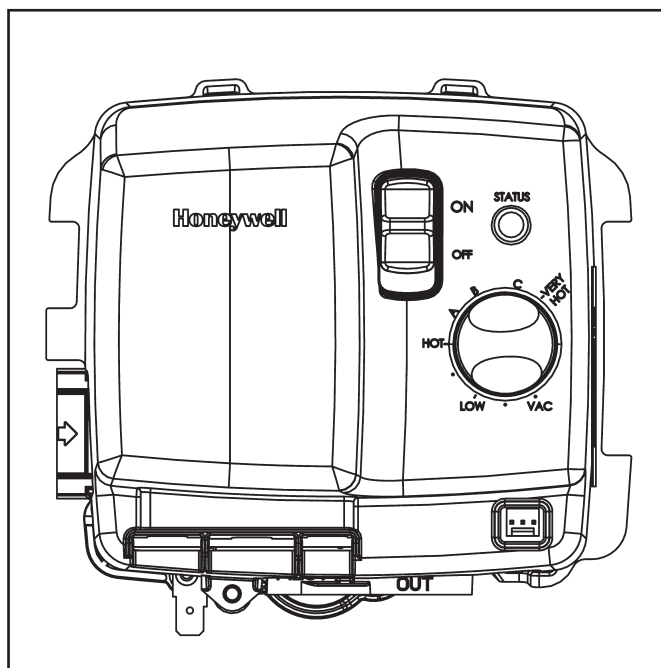

Figure 3. Temperature Adjusting Dial
The water heater temperature adjusting dial is factory set at the lowest temperature, all the way counter-clockwise to the mechanical stop, unless specified differently by provincial or state regulations. See **Figure 3**. It is adjustable and must be reset to the desired temperature setting to reduce the risk of scald injury. Turning the dial clockwise will increase the temperature and counter-clockwise will reduce the temperature. The HOT marking on the Honeywell gas valve is indicative of approximately 120°F (49°C) and is the preferred starting point. Some states have a requirement for a lower setting. Should overheating occur or the gas supply fails to shut off, turn "OFF" the manual gas control valve to the water heater.
1. Set the gas control valve/thermostat to its lowest setting by turning the knob counter-clockwise to the VAC point. See **Figure 3** (page 6).
2. Turn gas control switch to the "OFF" position and turn "OFF" the gas supply to the unit. See **Figure 3** (page 6).
8. Turn the gas control switch to the "ON" position. See **Figure 3** (page 6).
9. Turn the gas control switch to the "ON" position. See **Figure 3** (page 6).
1. Set the gas control valve/thermostat to its lowest setting by turning the knob counter-clockwise to the VAC point. See *Figure 3* (page 6).
2. Turn gas control switch to the "OFF" position and turn "OFF" the gas supply to the unit. See *Figure 3* (page 6).